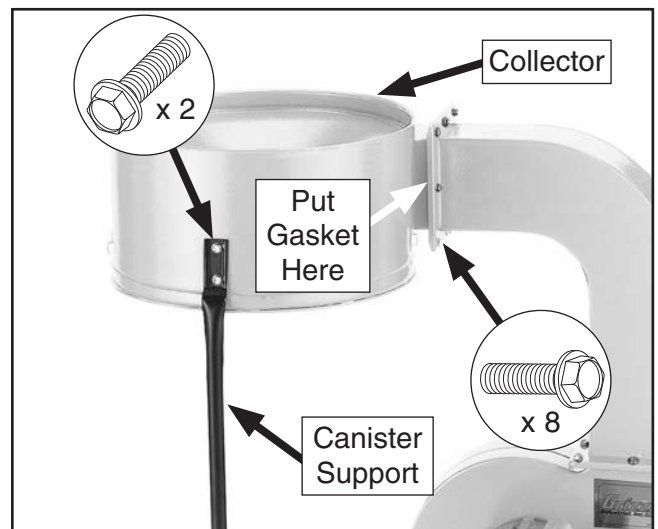

Figure 16. Collector installed.
- With the help of another person, position the remaining rubber gasket on the rim of the outlet connector, mate the rim of the collector with the connector, and secure it in place with (8) $\frac{5}{16}$ -18 x $\frac{1}{2}$ " flange bolts, as shown in **Figure 16**.
- Attach the top of the canister support to the collector with the remaining two $\frac{5}{16}$ -18 x $\frac{1}{2}$ " flange bolts, as shown in **Figure 16**.